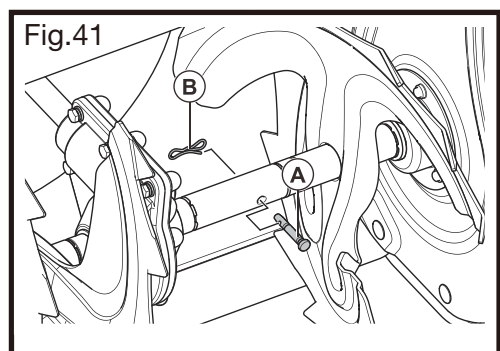

Fig.41
2. Attach a new shear pin (A) and a new clamp spring (B). See Fig.41.